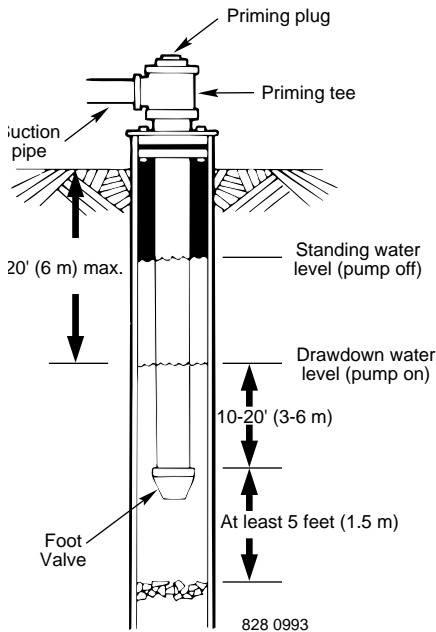
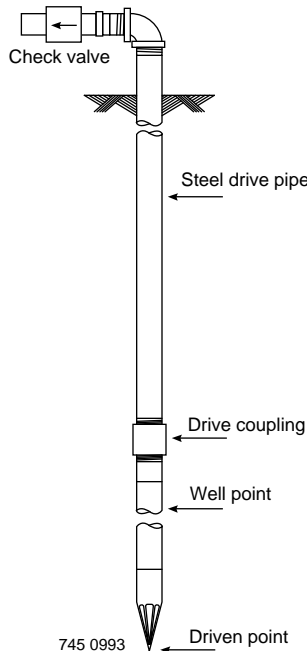

Figure 6 – Cased/Dug Well Installation
Figure 7 – Driven Point Installation
5. When using a foot valve, a priming tee and plug as shown in Figure 6 are recommended.
1. Connect the suction pipe to the drive point as illustrated in Figure 7. Keep horizontal pipe run as short as possible. Use Teflon tape on male pipe threads. Multiple well points may be necessary to provide sufficient water to pump.
2. To aid priming on well point installations, install a line check valve as shown in Figure 7. Be sure check valve flow arrow points toward pump.
NOTICE: For long horizontal pipe runs, install a priming tee between check valve and well head as shown in Figure 6. For driven point installations, install a check valve as shown in Figure 7. Be sure check valve flow arrow points **toward** pump.